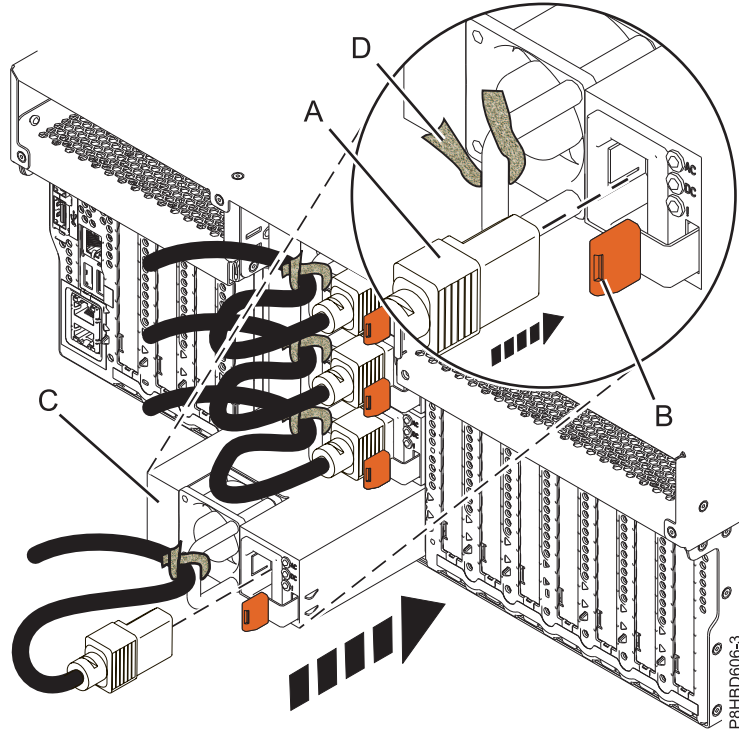
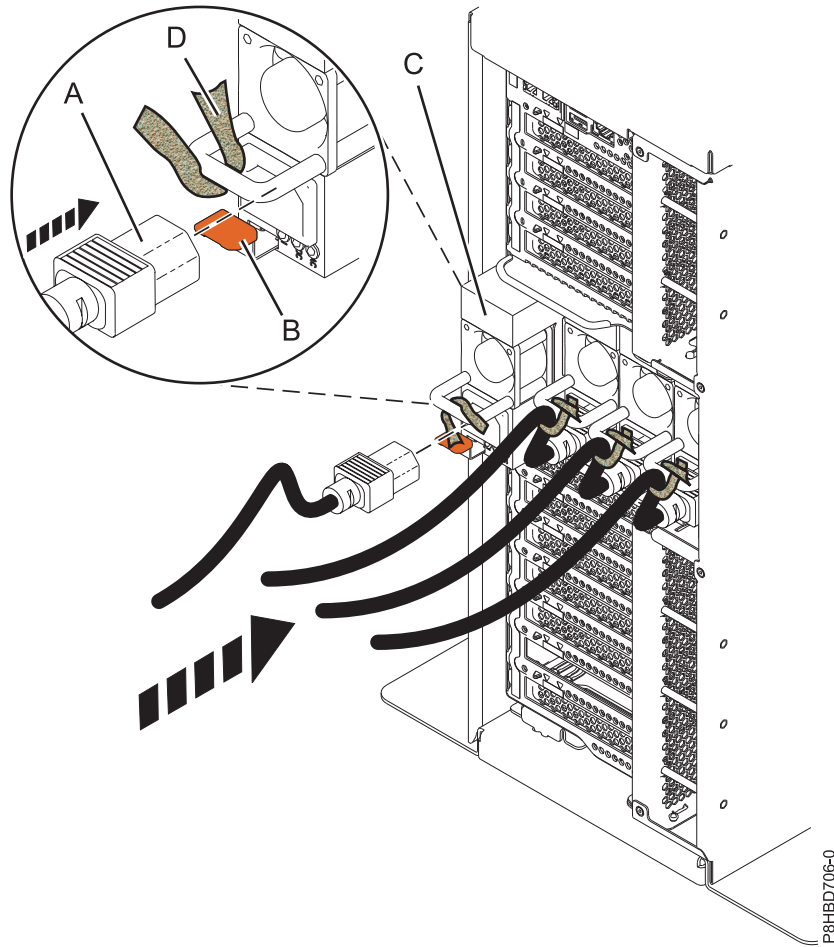

Figure 21. Replacing a power supply in a rack-mounted system
Figure 22. Replacing a power supply in a stand-alone system
3. Align the power supply (C) with the bay and slide the power supply into the system until the terracotta latch (B) locks in place, as shown in Figure 21 for a rack-mounted system and Figure 22 on page 25 for a stand-alone system.
4. Connect the power cord (A) to the power supply (C), as shown in Figure 21 on page 24 for a rack-mounted system and Figure 22 for a stand-alone system.
5. Use the hook-and-loop fastener (D) and tie the power cord to the power supply handle, as shown in Figure 21 on page 24 for a rack-mounted system and Figure 22 for a stand-alone system.